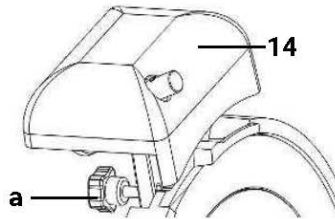

Fig. 4
3. Loosen the fixing screw (a) of the sharpener (14) on the back side of the unit (**fig. 4**).
1. Remove the sharpener from the unit. Refer to **Fig. 4**.